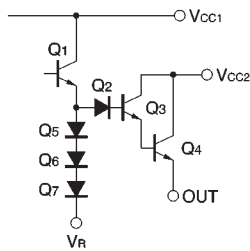

Fig.7
(1) A schematic for the internal circuit associated with the output voltage setting pin (Pin 4) is shown in Fig. 7. The maximum output voltage ($V_{O\text{MAX}}$) is given by :